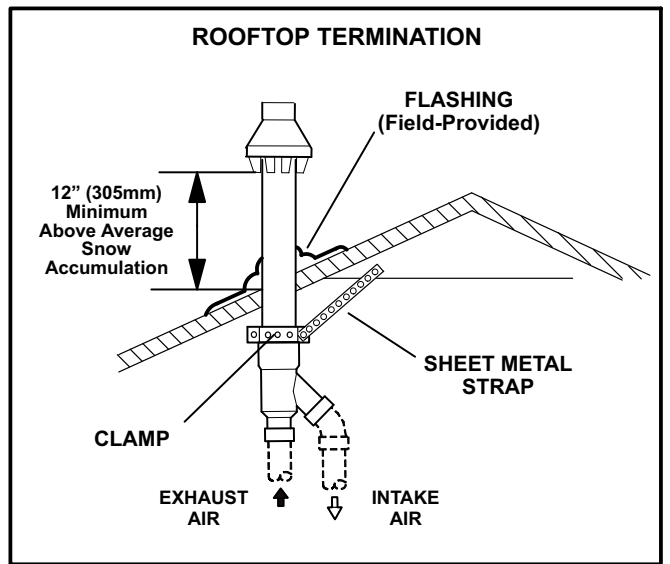

FIGURE 3
- 4 - Run 4-inch (102mm) pipe through roof opening. Use a sheet metal strap to secure the termination to the roofing joist as shown in figure 3.
- 5 - Slide field-provided flashing over pipe and secure flashing to roof as shown in figure 3. Seal around flashing to make sure it is weather-tight.